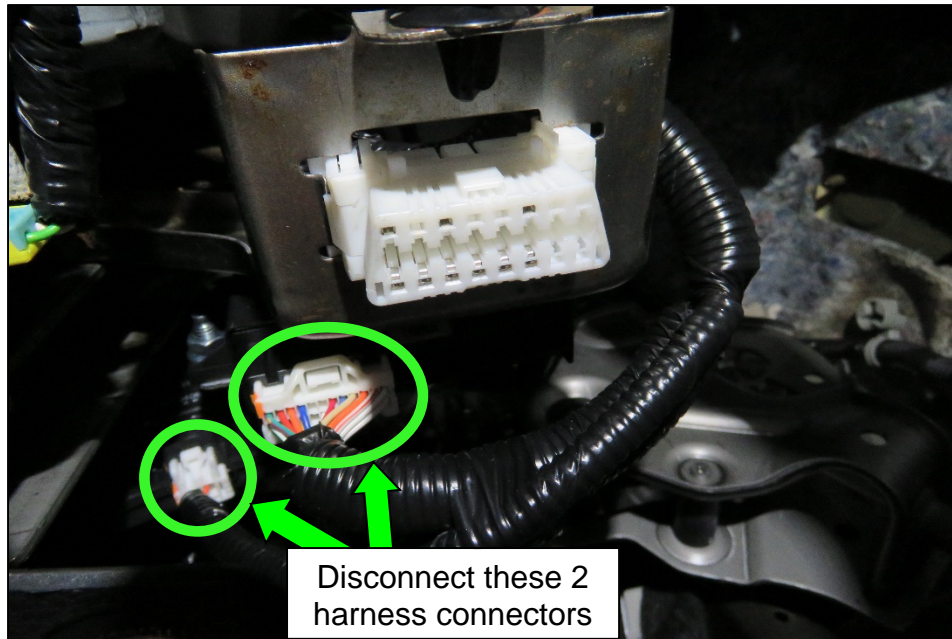

Figure 3
2. Disconnect the white 24 pin sonar control unit harness connector M114 and the smaller white harness connector near it (Figure 3).